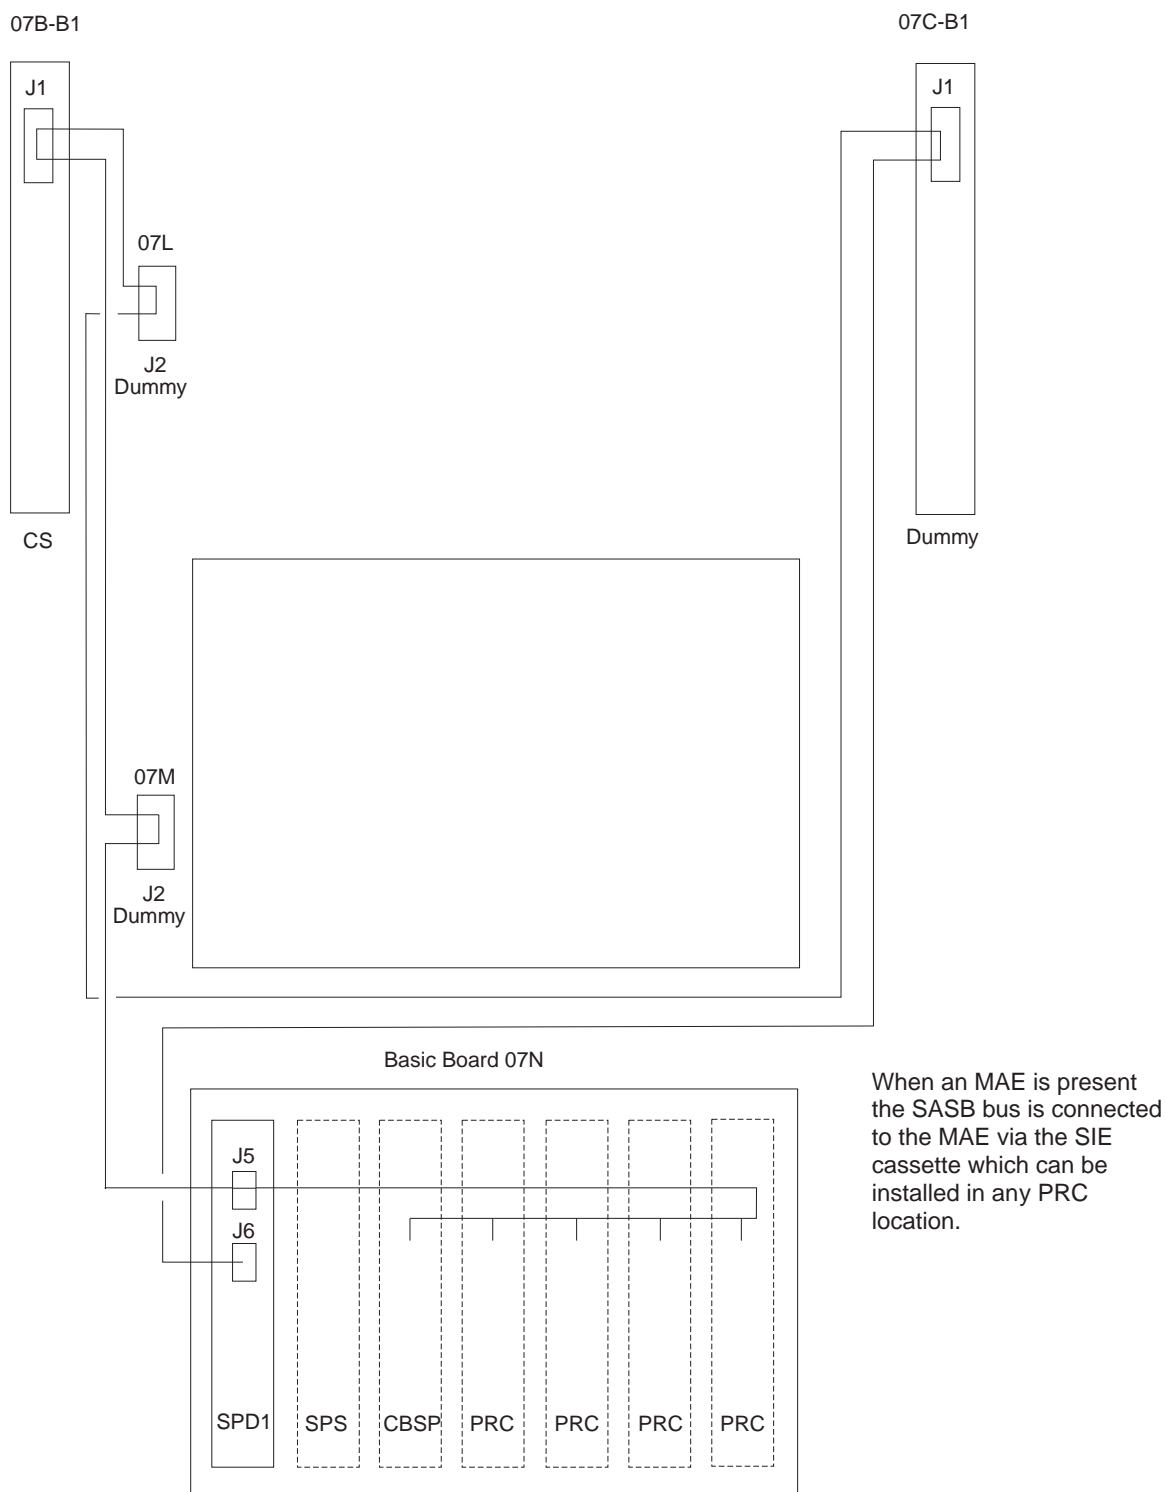
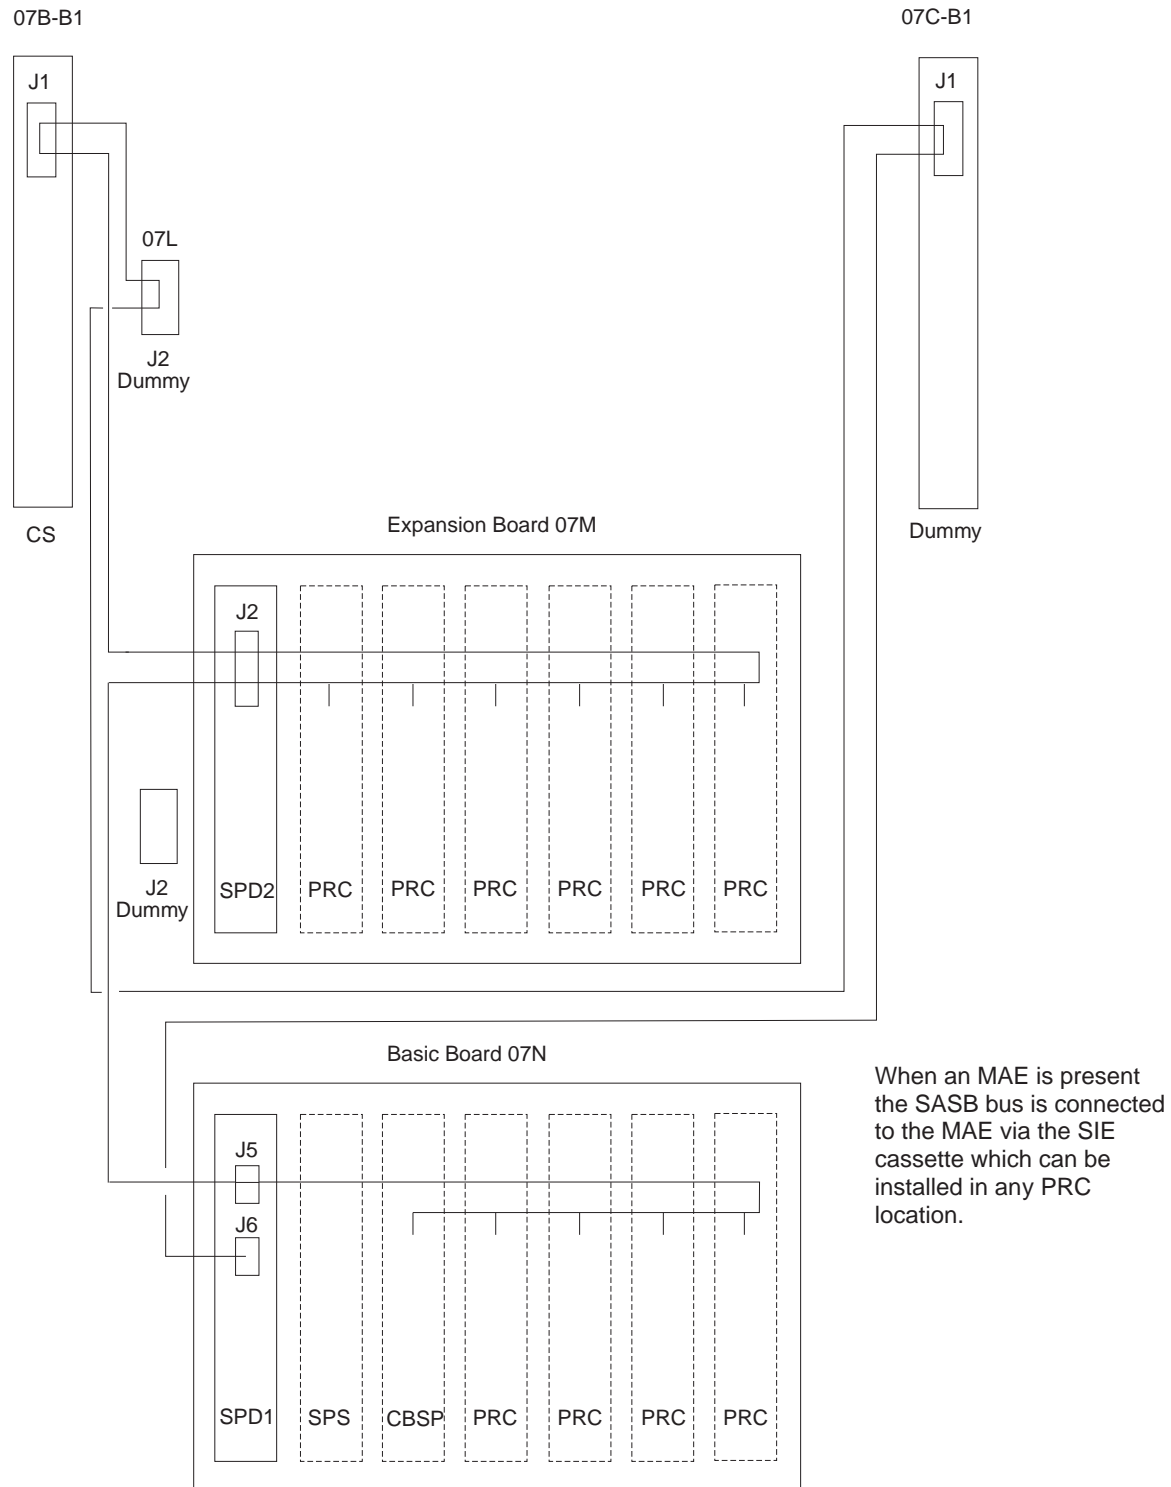
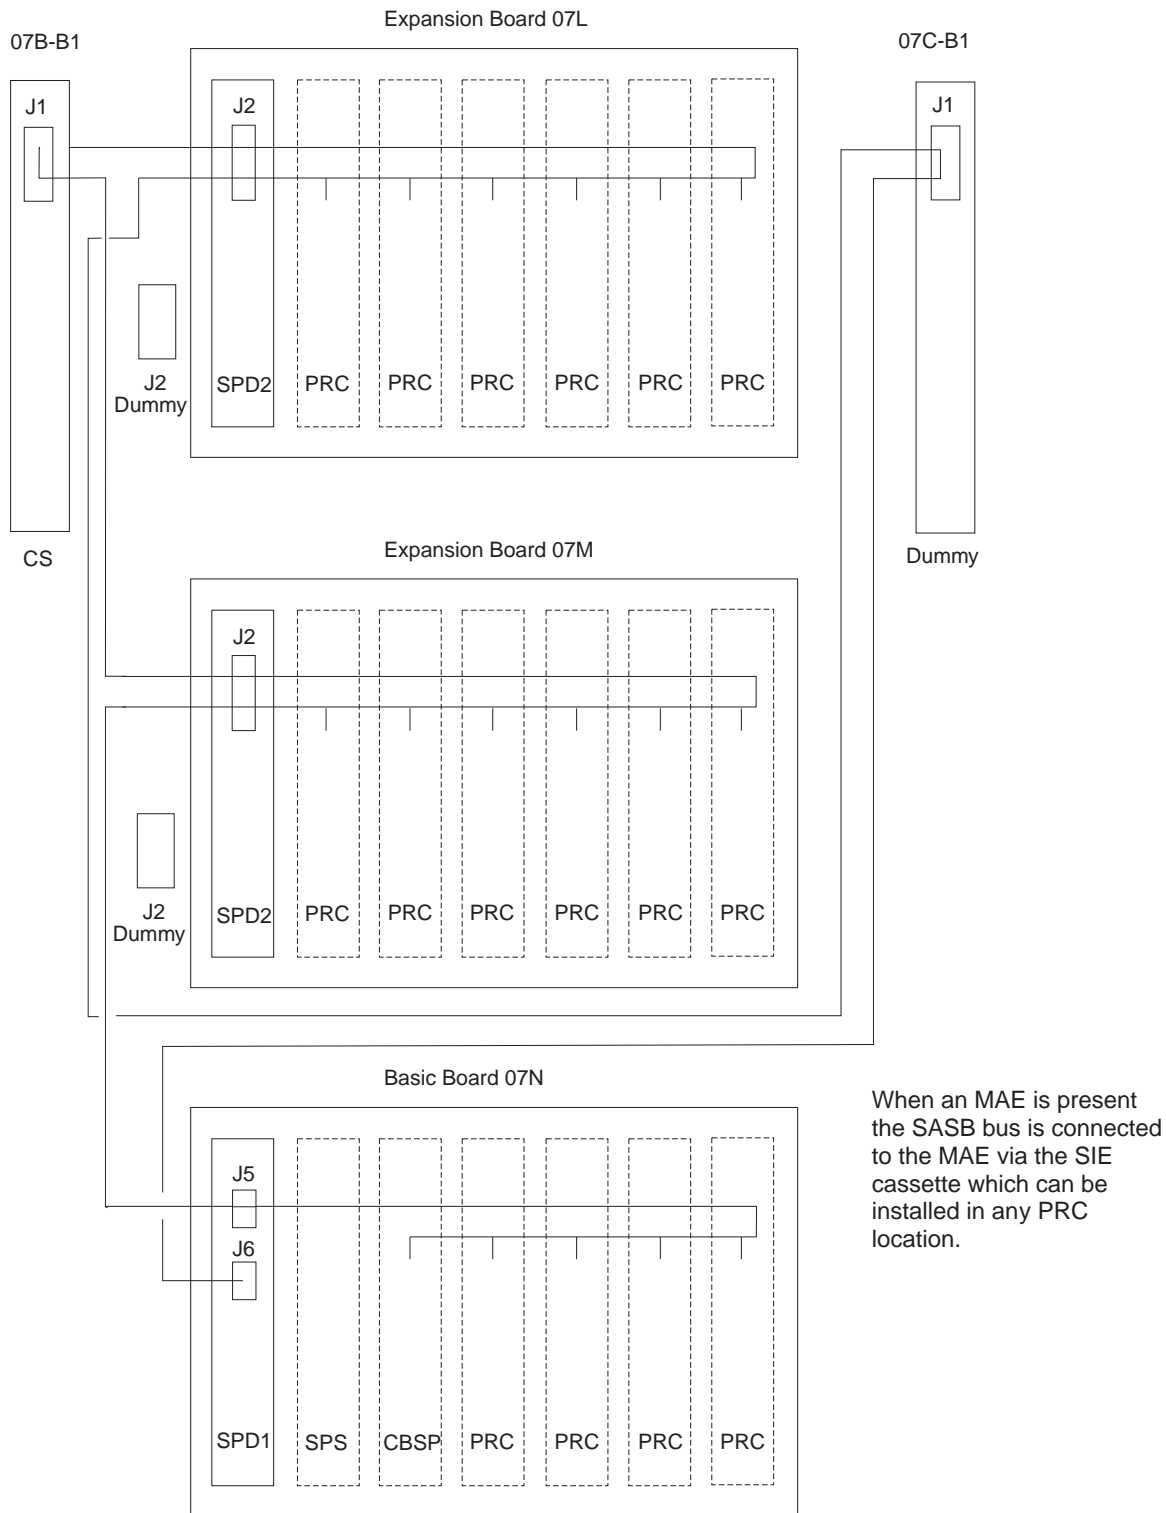

Figure 2-7. Stand Alone Service Bus (SASB) Routing with Basic Board Only
Figure 2-8. Stand Alone Service Bus (SASB) Routing with Expansion Board
Figure 2-9. Stand Alone Service Bus (SASB) Routing Two Expansion Boards
- A "Diagnostic Active Status" window is displayed briefly. Then the first "Information required" window is displayed prompting you to perform tasks on the 3746-950. Perform all the steps following the prompts. Refer to Figure 2-7 on page 2-40, Figure 2-8 on page 2-41, or Figure 2-9 on page 2-42 to locate the different components.